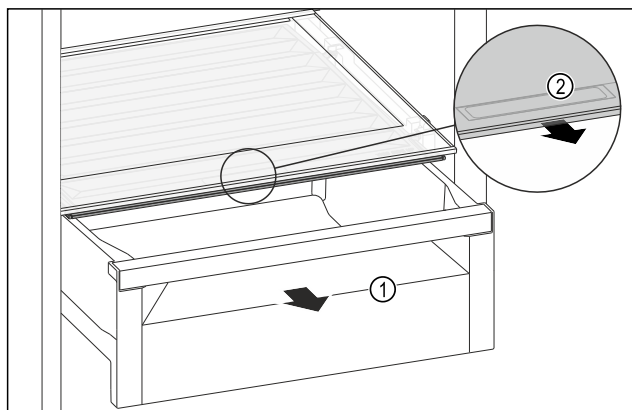

Fig. 104
- Pull out the drawer Fig. 104 (1).
- Grasp the recessed grip Fig. 104 (2) on the compartment lid and pull the compartment lid forwards at the same time.